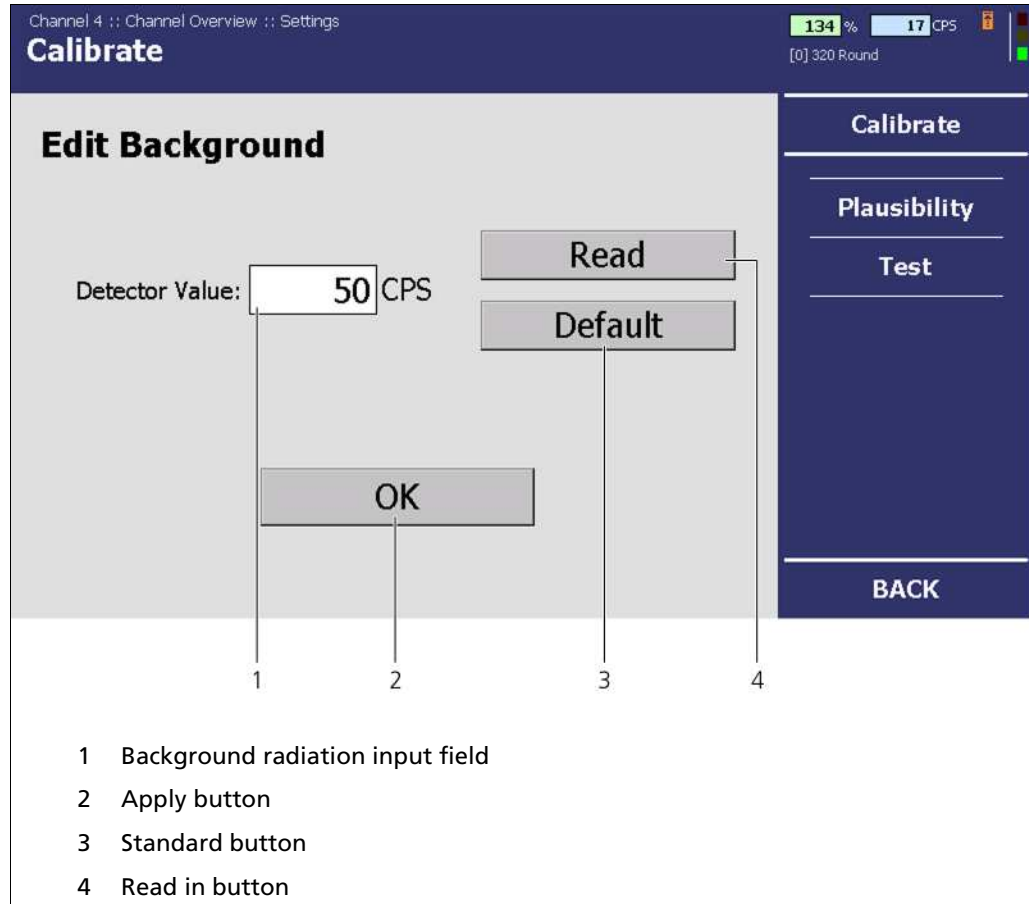

Fig. 58 "Channel Overview" Menu, Settings - Calibration (Background Level)
⇒ The "Background Level" menu opens (Fig. 58).
3. Click on <Read in> (Fig. 58, Pos. 4) to read in the background level or click on <Standard> (Fig. 58, Pos. 3), to use the standard value of 50 cps (preset).
4. Confirm your entry by clicking on <OK> (Fig. 58, Pos. 2).